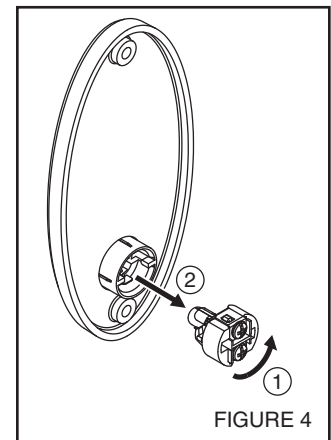

FIGURE 4
3. Remove wired pushbutton mechanism from pushbutton / escutcheon assembly by turning pushbutton mechanism counterclockwise and pulling it out. (Figure 4)